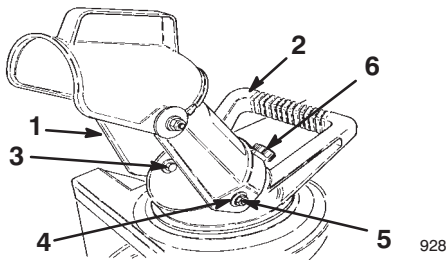

Figure 2
1. Position the holes on the discharge chute over the hex bolts on the sides of the chute handle (Fig. 2).
2. Secure the discharge chute onto the hex bolts with two washers and two locknuts (Fig. 2).
5. Install the knob **tightly** onto the screw at the rear of the discharge chute (Fig. 2).